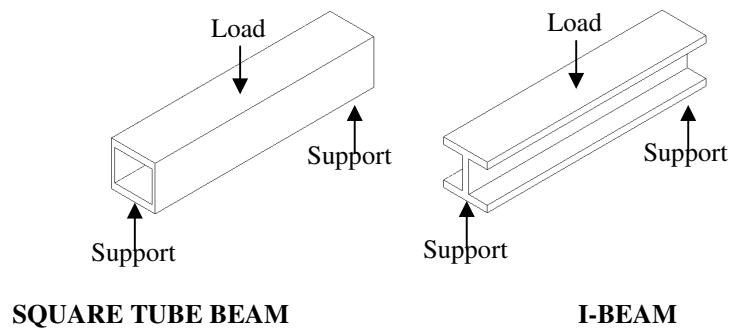

Figure 9(d)
- (i) Using notes and sketches, identify the stronger beam in Figure 9(d) while it is under load. Give two reasons for your choice. (3 marks)
- (ii) Illustrate one method to improve the performance of one of the beams shown in Figure 9(d). (3 marks)